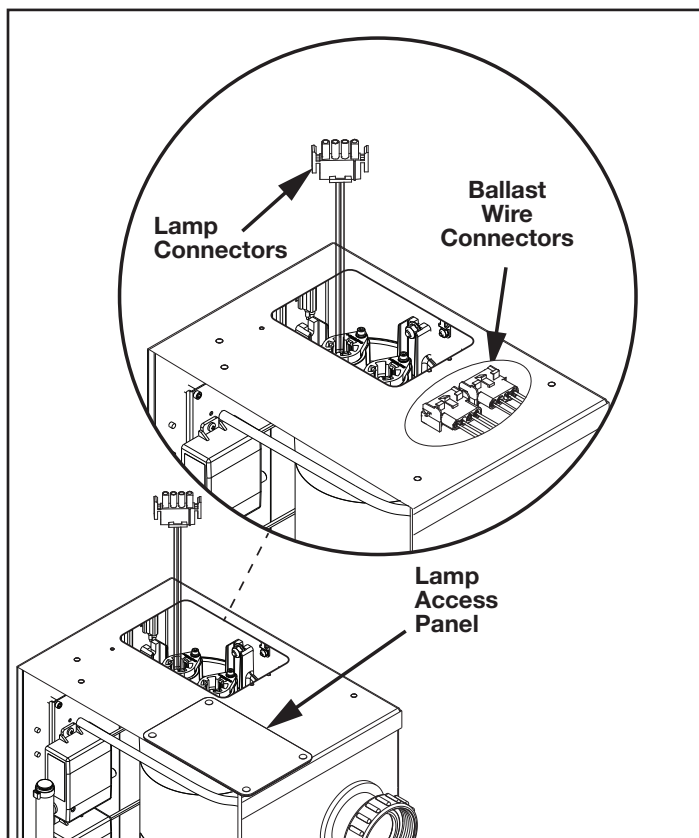

Figure 10. JAOPX500 UV Reactor Lamp Access
10. Reconnect all of the wiring connecting the Jandy AOP system to the ballast. See Figure 10.